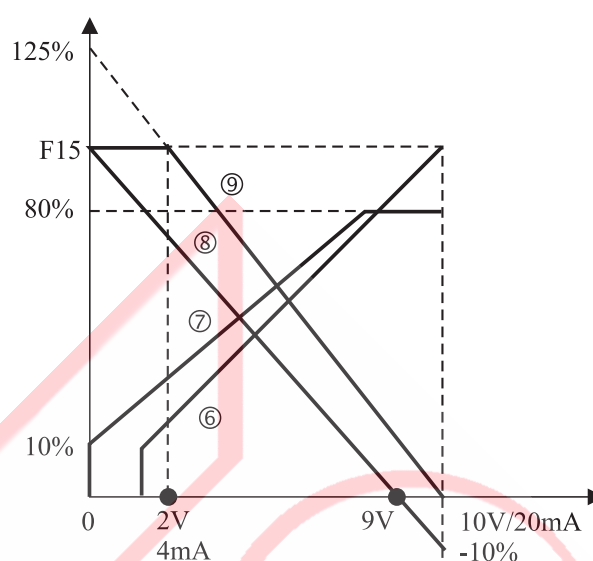

Fig. 2
*** Refer to the Description Given Below According to the Chart Given Above Fig. 2:**